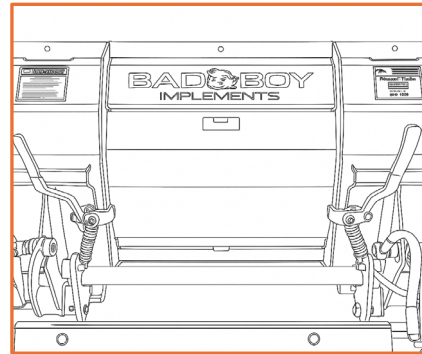

Figure 3-1
3. If needed, pull the locking handles on the quick attach until pins are fully raised. See Figure 3-1.